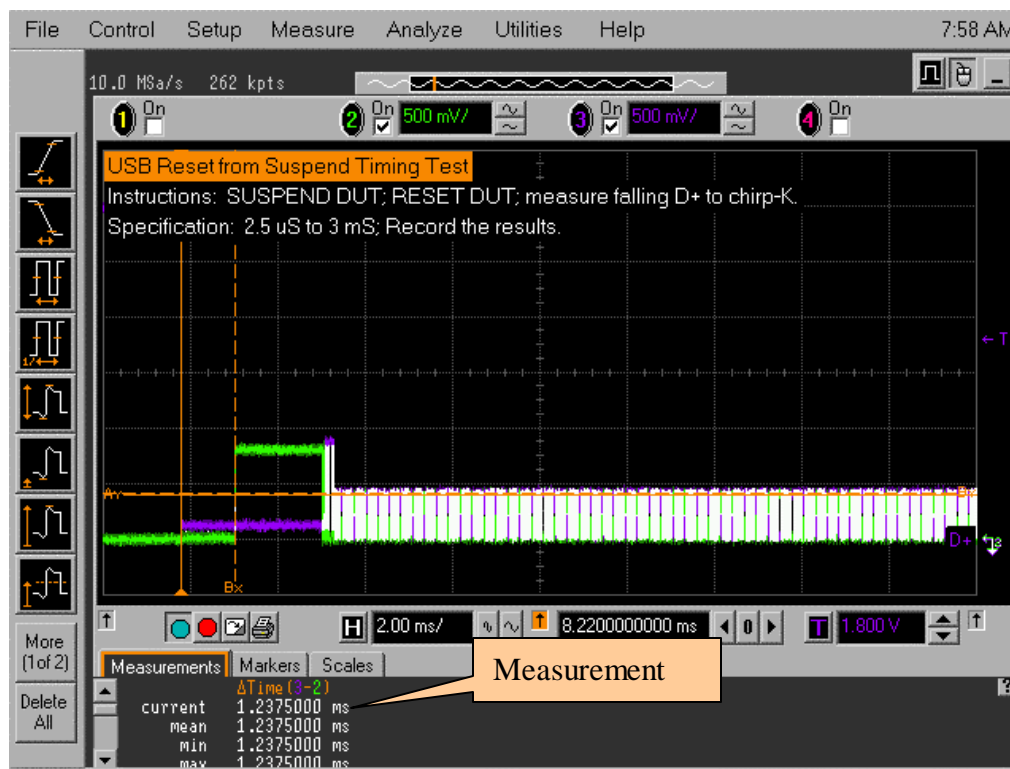

Figure 52. Device Reset from Suspend
- c. The captured reset from suspend transition should appear as in Figure 52.
- Use the automatic measurement shown in the lower left of Figure 52 to measure the time between the falling edge of the D+ and the start of the device chirp-K.